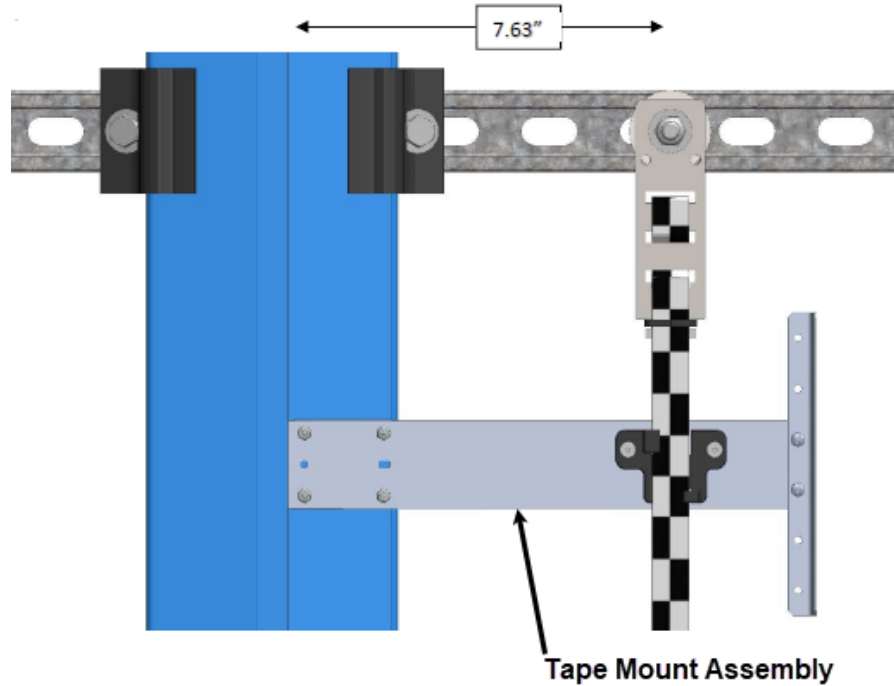

Figure 92: Upper Tape Unistrut Installation
3. Position the Upper Tape Mount assembly 7.63" from the wheel surface of the guide rail to the center of the 3/8" bolt (See Figure 92).